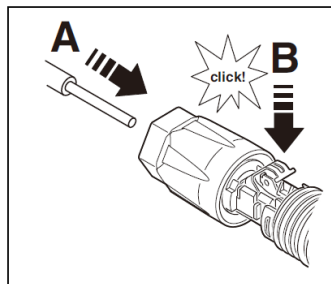

Figure 5-15
4. Carefully insert the stripped wire with twisted conductors all the way in (Figure 5-15, A). The litz wire ends have to be visible in the spring.
5. Close the spring. Make sure that the spring is snapped in (Figure 5-15, B).